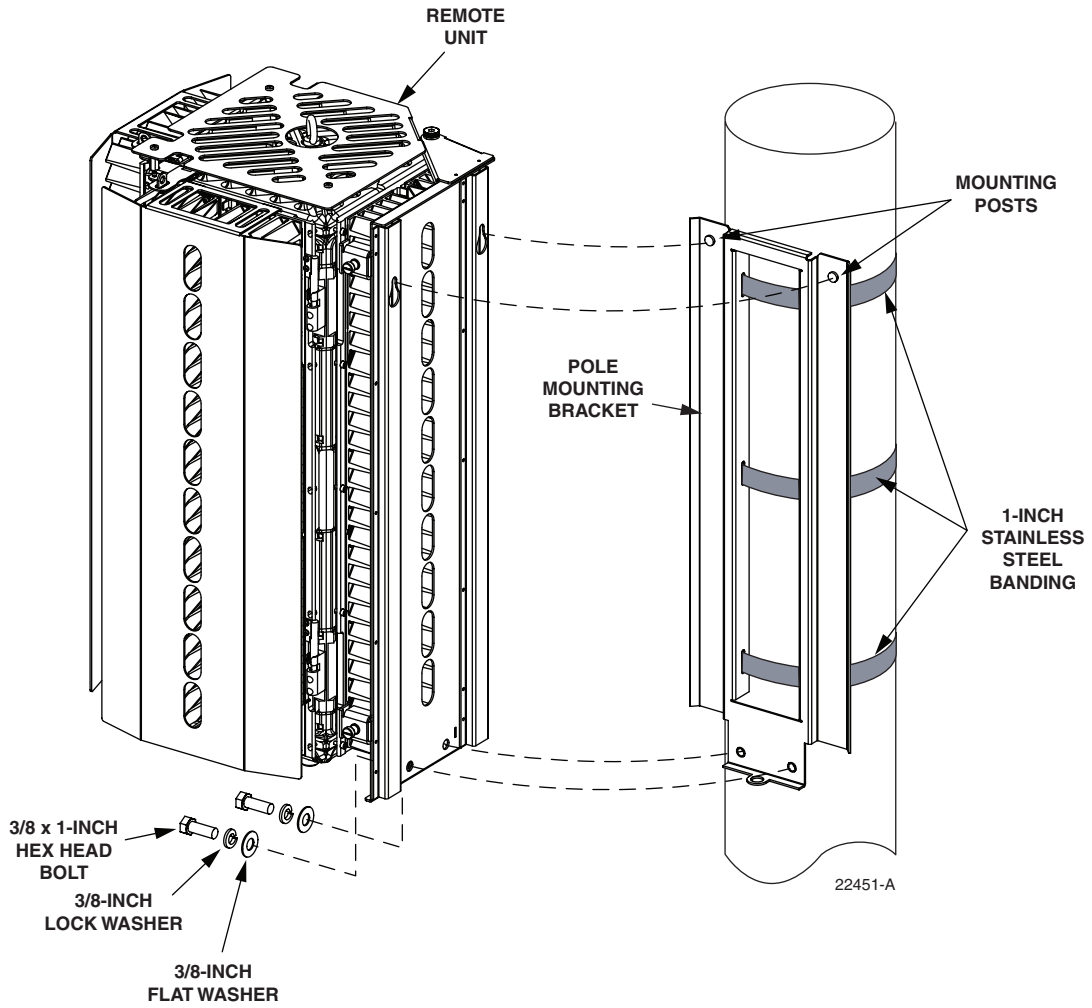

Figure 14. Securing Remote Unit To Pole
1. Hang the RU from the mounting bracket as shown in Figure 14. The tear drop slots in the rear side of the RU fit into the two mounting posts at the top of the mounting bracket.